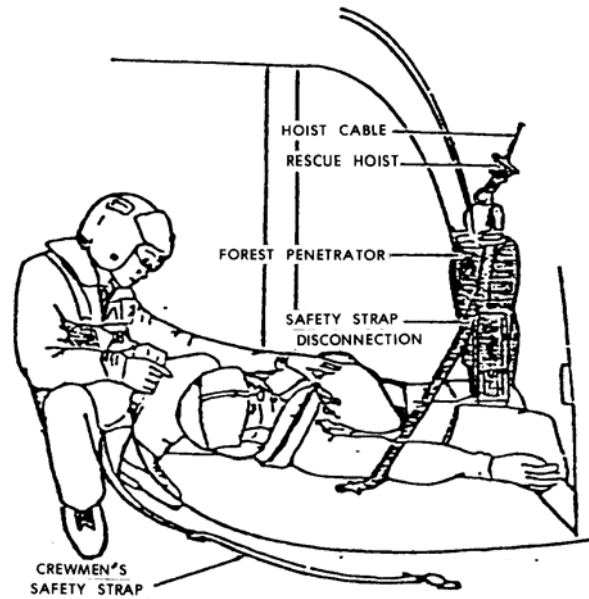

Figure 5-15. Releasing the casualty from the forest penetrator.
e. The operator then releases the safety straps, lifts the penetrator off the casualty (figure 5-15), pulls the casualty completely inside the compartment, and secures the casualty.